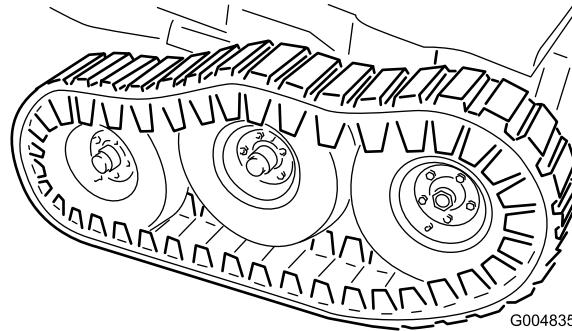

Figure 125
41. Lower the floor jack until the front wheels support the frame. Install the flat washers (1/2 inch) and locknuts on the bogie pivot stud (Figure 125) and torque to 102 N·m (75 ft-lb).